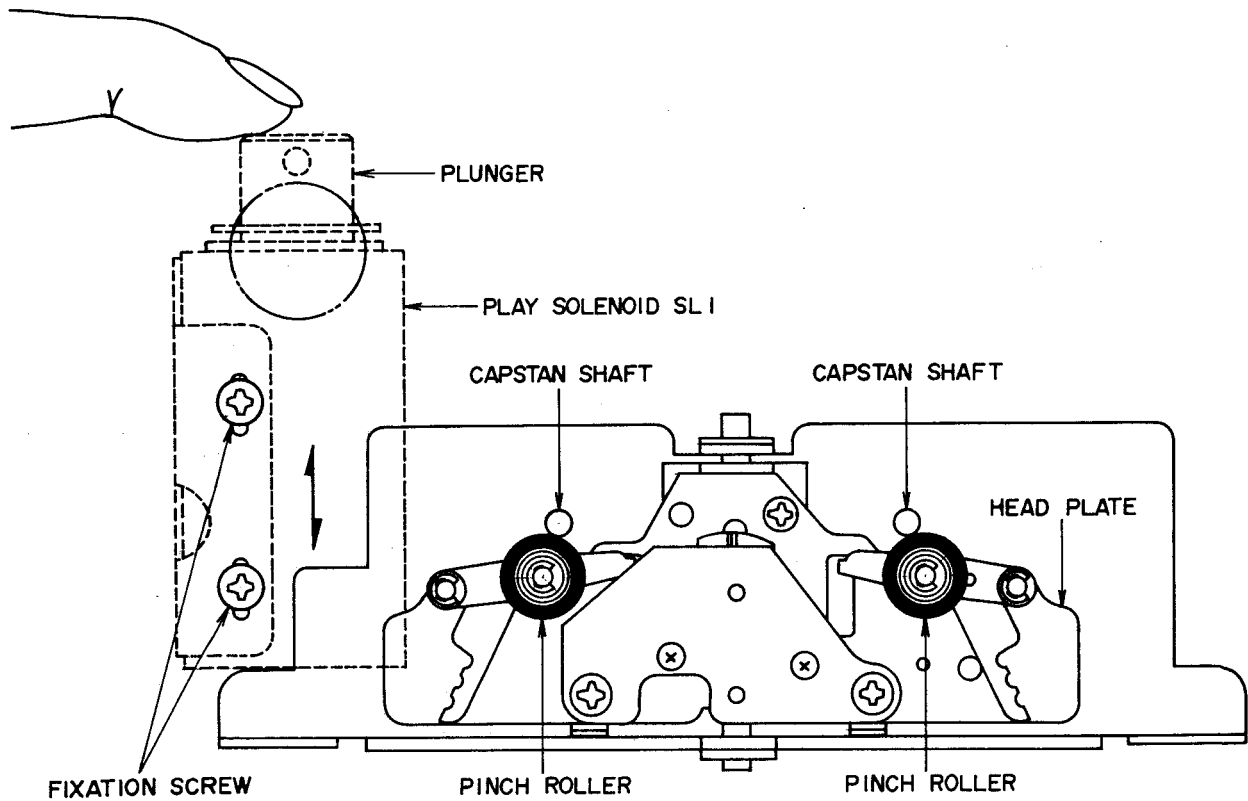
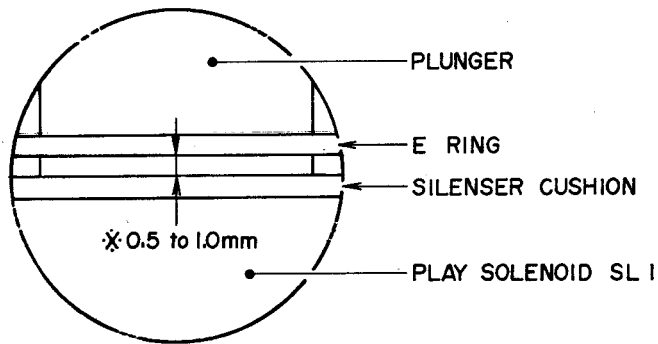

Fig. 7
Fig. 8
5) Play Solenoid Installation Position Adjustment (Refer to Fig. 7 and Fig. 8)
As shown in Fig. 7, at stop mode, when the tip of plunger is gently depressed, the pinch roller contacts the capstan shaft, at this time confirm that the gap between "E" ring and silencer cushion is 0.5 to 1.0 mm. (See fig. 8)